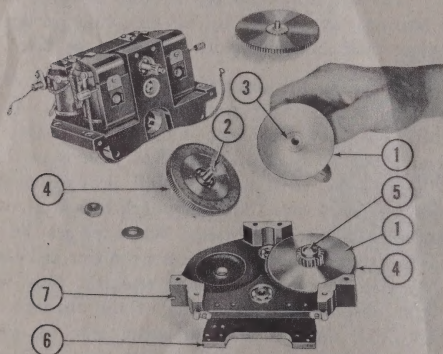

Figure 263 — Examining Clutch and Pinion Assemblies
(c) (See figure 263.) Examine the clutch and pinion assemblies (1) to make sure that the surface of the clutch disc has not been scratched or nicked in the area which contacts the cork insert in the gear assembly (4). If this surface is damaged in any way, replace the clutch and pinion assembly. If the rounded surface of the steel button (5) on the under side of the assembly has been nicked or scratched, it may be polished off smooth with a fine polishing paper. However, if this operation is necessary, it will probably be necessary in reassembly to change the clutch magnet armature in order to obtain the proper air gap between the magnet and the armature and, therefore, obtain the proper torque. Check the clearance between the bore of the clutch and pinion assembly (1) and the clutch gear stud shaft (2). If this clearance is excessive, replace either the stud or pinion assembly, depending upon which part is worn. Wear usually occurs in the clutch and pinion assembly.
(f) (See figure 263.) Inspect the slip-ring contact block mounting bracket (6) which fastens to the top of the plate assembly, to make sure that threads have not been stripped from the tapped holes. If threads appear to be stripped, replace the mounting bracket.